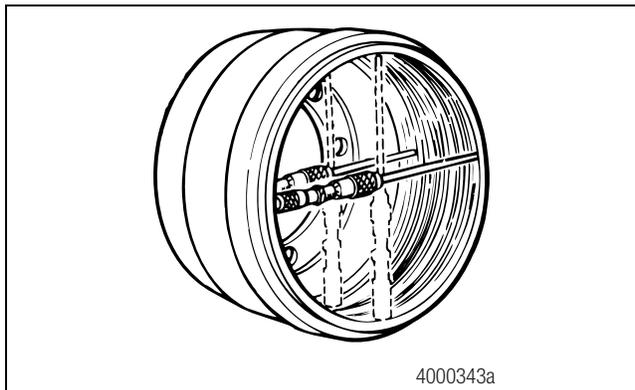

Figure 4.1
- B. Measure the inside diameter of the drum in several locations with a drum caliper or internal micrometer. Figure 4.1.